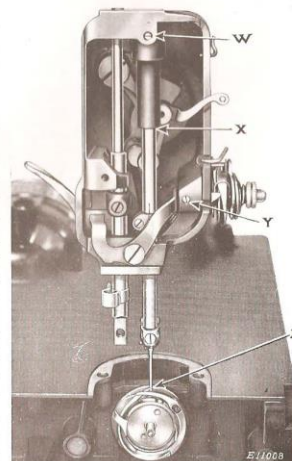
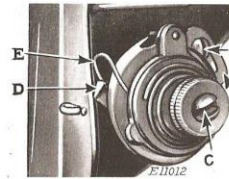

FIG. 20. TIMING ROTARY SEWING HOOK
FIG. 32. THREAD TAKE-UP SPRING
The needle bar has two timing marks near its upper end. Turn the balance wheel toward you until the lower timing mark on the needle bar is centred with the lower end of the needle bar bushing when the needle bar is on its upward stroke, as shown at (X, Fig. 20). When the needle bar is in this position, the point of the sewing hook should be at the centre of the needle, as shown at (Z, Fig. 20), if the hook is correctly timed. In case the hook is not correctly timed, turn the machine over on its rear side and remove the bottom cover plate after taking off the thumb nut which holds the bottom cover plate in place.
The needle bar bushing is accurately set at the factory, and its position should not be disturbed. If its position has been disturbed, turn the balance wheel toward you until the point of the hook is at the centre of the needle and approximately $\frac{1}{4}$ inch above the top of the eye of the needle. Loosen set screw (W, Fig. 20) and move the bushing up or down until its lower end centres with the **lower timing mark** at (X, Fig. 20). Then tighten set screw (W, Fig. 20).
The thread take-up spring (E, Fig. 32) should be set so that when the eye of the needle reaches the goods on the downward stroke of the needle bar, the spring will be through acting and will rest against the stop (D, Fig. 32) on the thread take-up spring regulator plate (B, Fig. 32). If the thread take-up spring is not correctly regulated, as instructed, loosen screw (A, Fig. 32) and turn the spring regulator plate (B) to the right to decrease thread take-up spring movement, or to the left to increase the spring movement. When spring (E) is correctly regulated, securely tighten screw (A).
Remove the face plate and loosen set screw (Y, Fig. 20). Turn the tension stud (C, Fig. 32) clockwise to decrease the tension, or counter-clockwise to increase the tension. The tension should be just enough to take up the slack of the needle thread until the eye of the needle reaches the goods in its descent. When the correct tension is obtained, tighten set screw (Y, Fig. 20).